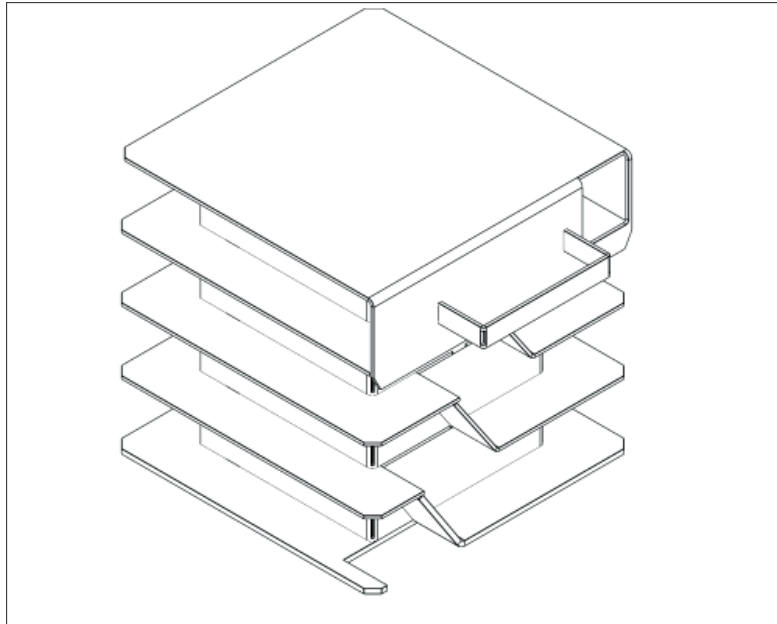

Figure 11-1: Baffles (50/90 models)
3. Remove the baffles as shown in Figures 11-1 and 11-2.
7. Replace the baffles, ensuring they are correctly fitted. Refer to Figures 11-1 and 11-2, as appropriate.